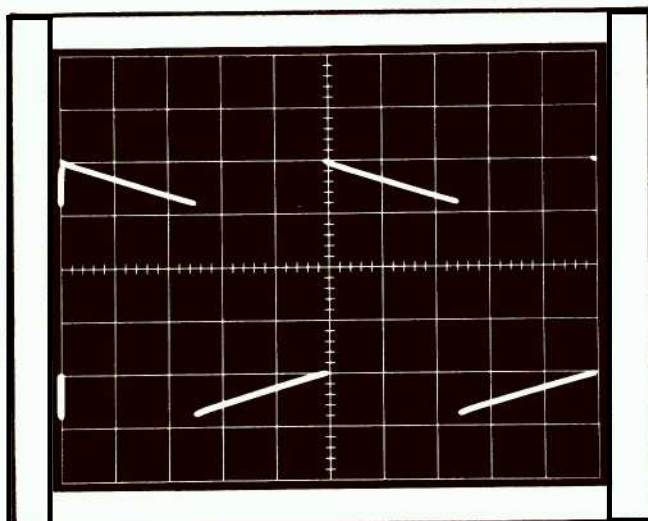

Fig. 5-3. 40 mA Calibrator square-wave. Front-panel GAIN adjusted for 4 divisions.
c. ADJUST—GAIN control, R318, for 4 divisions of displayed amplitude. See Fig. 5-3.